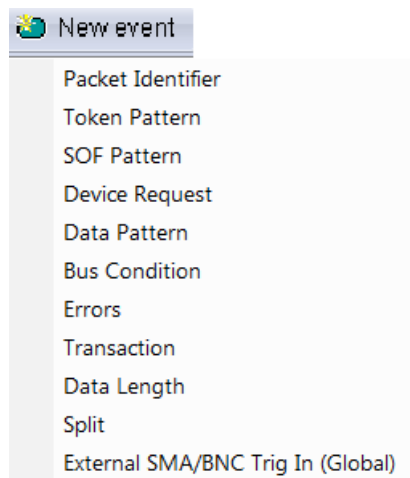

Figure 5.82: New Event Pop-up Menu.
1. Click the **New Event** button at the left side of the toolbar to display the New Event pop-up menu (see Figure 5.82).